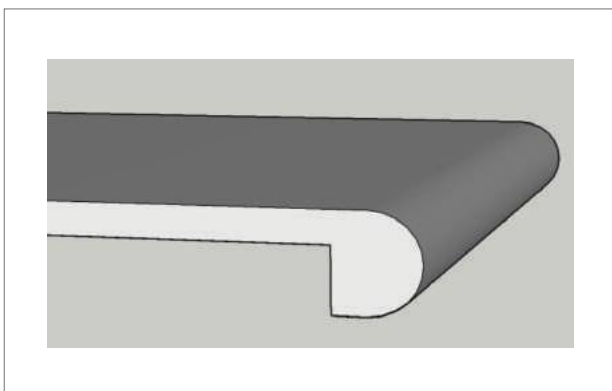

Fig.4
- When the adhesive is completely dry, smooth down the surface using a circular table saw, then machine the required profile using a portable hand-held router or a table planer (Fig. 4).